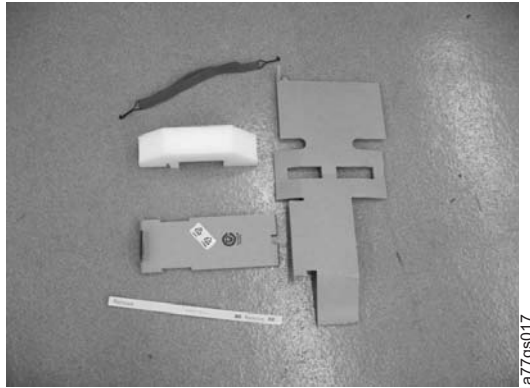

Figure 4-4. Packaging materials removed from library with the original-style picker
6. For libraries with the original-style picker, refer to Figure 4-4 on page 4-5 and ensure that you have removed all of the packaging material.